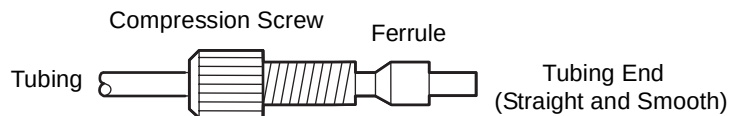

Figure 1-4 Ferrule and Compression Screw Assembly
2. Slide the compression screw and then the ferrule over the tubing end, as shown in Figure 1-4. Be sure the tapered end of the ferrule faces away from the end of the tubing.